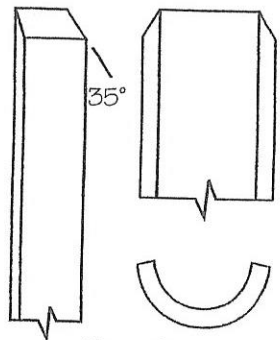
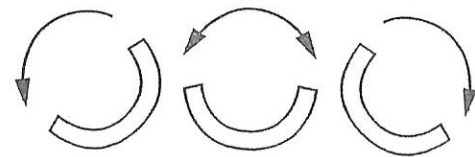
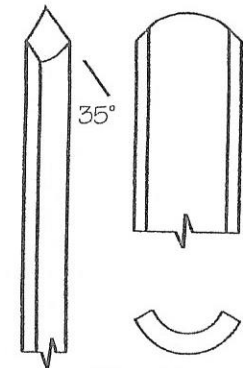

Fig. 6
Fig. 7
Fig. 10
**A**N essential tool for between center work (spindle turning). This tool will quickly reduce square timber to the round. Most turners favored a true half circle for this gouge with the cutting edge ground square across (See Fig. 6) which allows all of the edge to be utilized. As you will see from Fig. 7, whichever way you rotate the gouge the cutting edge remains the same. All roughing out of spindle work can be achieved with this tool and it is also ideal for long, shallow curves.
The old spindle turner's favorite tool, it was most commonly ground at an angle of 30° - 35° with a fingernail shape (Fig. 10) which made it ideal for ogees in pummels, and in long, shallow curves, general shaping and detail work. (This type of gouge was **not** used for bowl turning as it would not be rigid enough for the overhang over the hand rest which would be required when working inside the bowl.)
The larger sized 1 1/4" or 1 1/2" were frequently used as roughing out gouges by many turners. When used for that purpose it was the personal preference of the turner which decided whether the gouge was ground straight across (Fig. 6) or fingernail (Fig. 10).